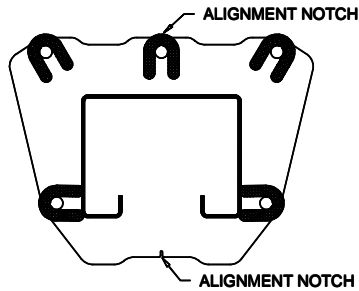

Fig 2 – Column Shimming
- Erect both column assemblies. Align the notches in column base, **Fig 2**, with the installation lines. (HINT: It may be easier to install the lower synchronizer cable, Fig 7b, before columns are raised)
- 8) Shim both columns to plumb using the shims provided as shown in **Fig 2**. DO NOT shim more than 1/2" at any given point. Use a level no less than 24" in length to plumb columns.
- 12) Check idler column shimming. Use additional shims (*see Fig. 2*) to remove any gaps that may have been created while installing overhead beam. Tighten anchor bolts and re-check column for plumb. Torque to 150 foot pounds.